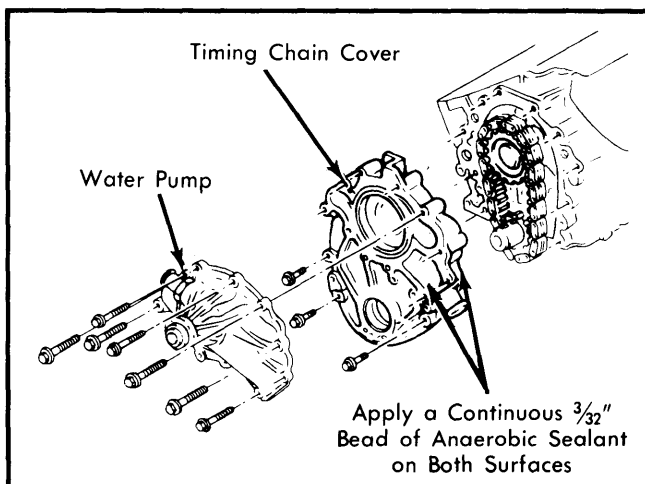

Fig. 9 Water Pump & Front Cover
**Removal** — Disconnect negative battery cable. Remove accessory drive belts and drain cooling system. Remove water pump. Remove A/C compressor and bracket. Use suitable torsional damper tool (J-23523) and remove damper. Disconnect lower radiator hose at front cover and heater hose at water pump connection. Remove front cover. See Fig. 9.